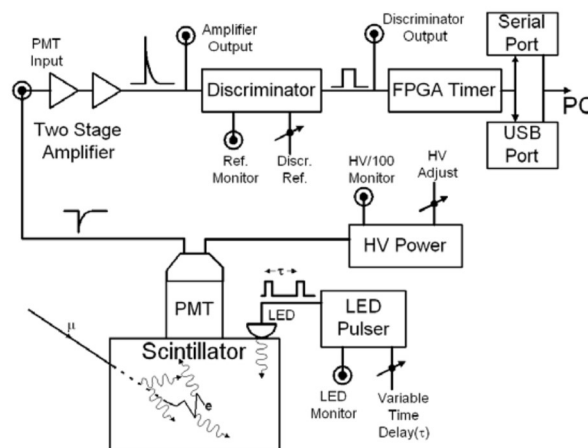

Figure 2
- Readout electronics is the device changing the amplified signal, compared with the input signal of discriminator, to a readable wave signal and pass the signal to a FPGA timer to calculate the decay time of the muons. Figure 2 shows how Readout electronics works.